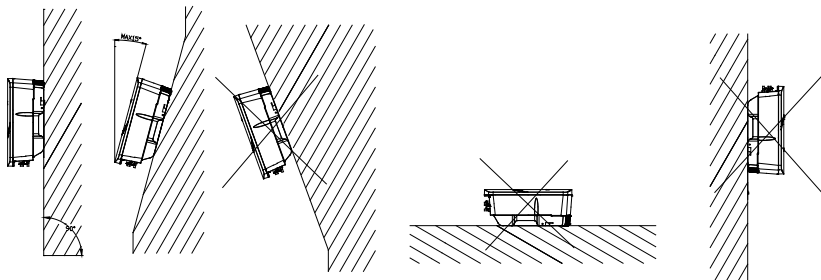

Figure 4.1 Mounting method
- ① The equipment employs natural convection cooling, and it can be installed indoor or outdoor.
- ② Please install the equipment under the guidance of Figure 4.1. Vertical installation on floor level is recommended. Mount vertically or tilted backwards by max. 15°. Never install the inverter tilted forwards, sideways, horizontally or upside down.
- ③ Considering convenience for maintenance, please install the equipment at a position in parallel with line of sight.
- ④ When mounting the inverter, please consider the solidity of wall for inverter, including accessories. Please ensure the Rear Panel mount tightly.